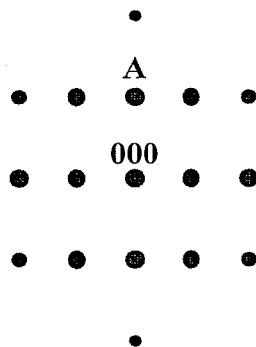

Fig. 1. Diffraction pattern from an iron bcc crystal.
The diffraction pattern in Fig. 1 is obtained for an iron crystal with bcc crystal structure having the electron beam incident along a zone axis in a TEM operated at 200 kV.
- (b) Draw the Kikuchi lines corresponding to the 8 diffraction spots closest to 000 in Fig 1. (0.5p)